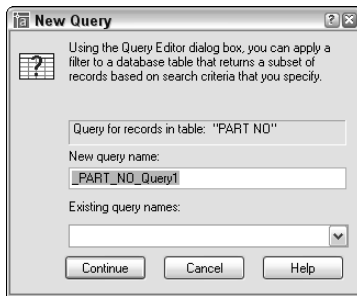

Figure 20-18: The New Query dialog box.
3. In the New Query dialog box (shown in Figure 20-18), type a name for the new query or accept the name AutoCAD supplies. To base a query on an existing query, choose an existing query from the drop-down list. Click Continue.